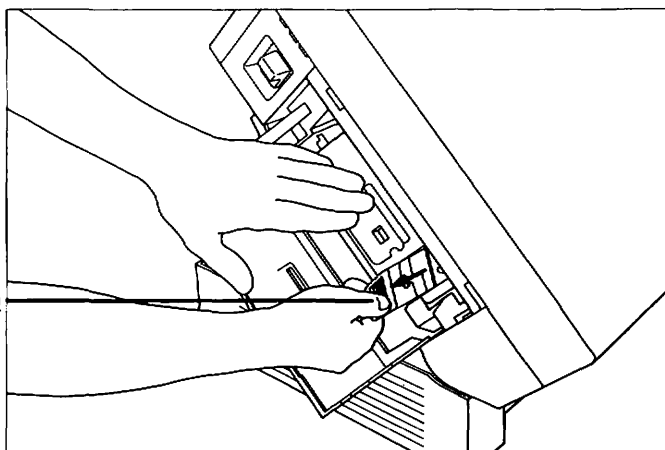

FIGURE 5-10
2. Flex the black tab on the toner cartridge until it breaks loose (Be careful not to break the attached sealing tape; Figure 5-10). Hold the cartridge steady and pull the tab out completely to remove the attached sealing tapes.